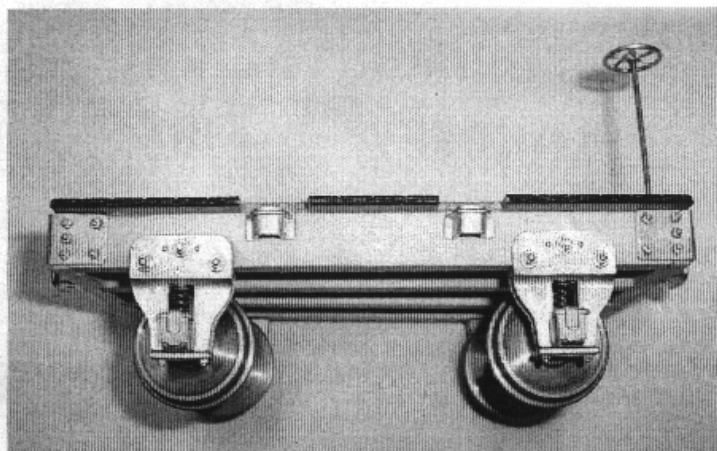

Figure 9
- 9) Next, attach the stake pockets centered under the notch in the floor. (fig 9)